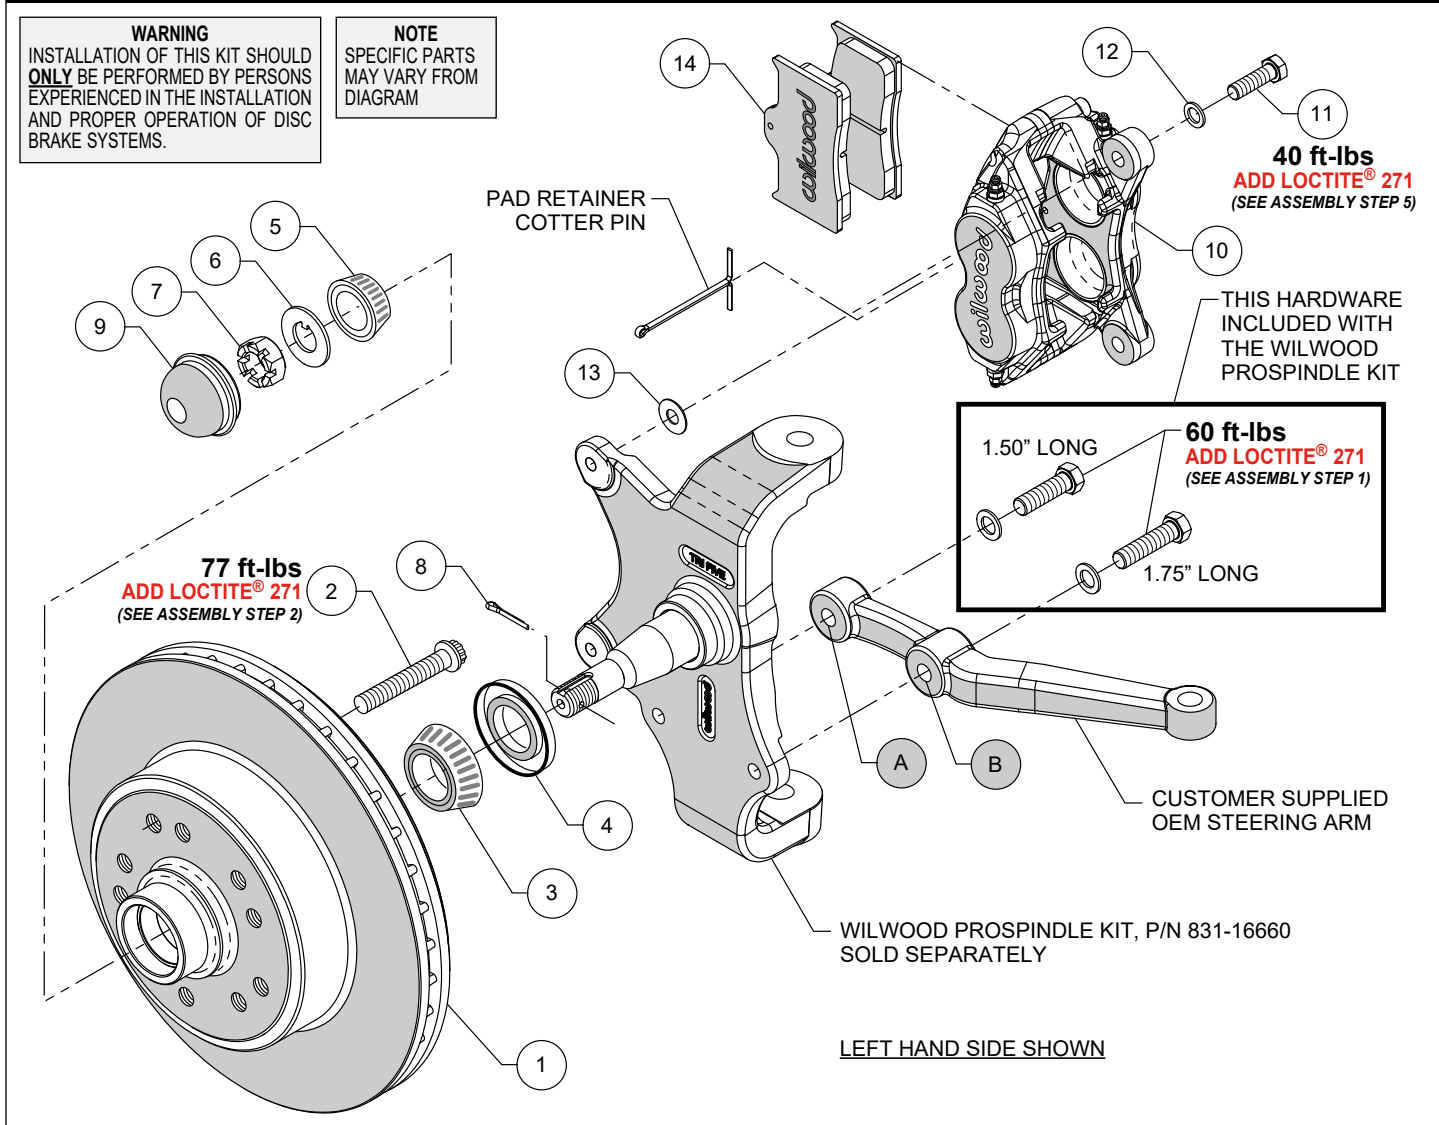

Figure 1. Typical Installation Configuration
Numbers in parenthesis refer to the parts list and Figure 1 on the preceding pages.
•NOTE: Wilwood's ProSpindle kit (p/n 831-16660) includes bolts and washers to mount the steering arm (customer supplied) to the spindle. The various bolts are identified by length in the following instructions and in Figure 1.
STEP 1 Orient the steering arm, and identify the hole marked "A" as shown in Figure 1. Attach arm to spindle using 1.50" long bolt and washer (from ProSpindle kit), Figure 1. Finish attaching the steering arm through the hole marked "B", using 1.75" long bolt and washer (from ProSpindle kit), Figure 1. Temporarily tighten the mounting bolts. NOTE: The steering arm must fit squarely against the mounting points on the spindle. Inspect for interference from casting irregularities, machining ridges, burrs, etc. Remove bolts one at a time, apply red Loctite® 271 to threads, and torque to value shown in Figure 1.
STEP 2 Install wheel studs (2) into the hub of the rotor (1), Photo 1. Apply red *Loctite*® 271 to the threads and torque to value shown in Figure 1. **NOTE:** There are two five lug patterns in the hub (5 x 4.50 and 5 x 4.75). Ensure the correct hub stud pattern is being used to fit the wheel application.
STEP 3 Pack the large inner bearing cone (3) with high-temp disc brake bearing grease (available from your local auto parts store) and install into the backside of the rotor/hub (1), Figure 1 and Photo 2. Install the grease seal (4) by pressing into the backside of the rotor/hub (1), flush with the end of the hub.
STEP 4 Pack the small outer bearing cone (5) with high temperature disc brake bearing grease and install into the front side of the rotor/hub (1), Photo 3. Slide the rotor/hub onto the spindle. Secure using spindle washer (6) and spindle nut (7), Photo 4. **Bearing adjustment:** Tighten the nut while turning the hub. When there is a slight bind on the bearings, they are seated correctly. Back the nut off about 1/6 to 1/4 of a turn, or sufficiently to allow .001" to .007" end play. **WARNING:** Failure to back off adjusting nut could cause bearing to run hot and be damaged, which could cause the wheel to lock or come off. Install cotter pin (8). Press the dust cap (9) into hub of rotor (1), Photo 5. **NOTE:** Do not hammer center of cap, install using outer flange only.
STEP 5 Mount the caliper (10) onto the mount bosses of the Wilwood ProSpindle using bolts (11) and washers (12), as shown in Photo 6 and Figure 1. Initially place one .035" thick shim (13) on each bolt between the caliper and the bracket. Temporarily tighten the mounting bolts and view the rotor (1) through the top opening of the caliper. The rotor should be centered in the caliper, Photo 7. If not, adjust by adding or subtracting shims (13) between the bracket and the caliper. Always use the same amount of shims
on each of the two mounting bolts. Once the caliper alignment is correct, remove the bolts one at a time, apply red *Loctite*® 271 to bolt threads, and torque to value shown in Figure 1.